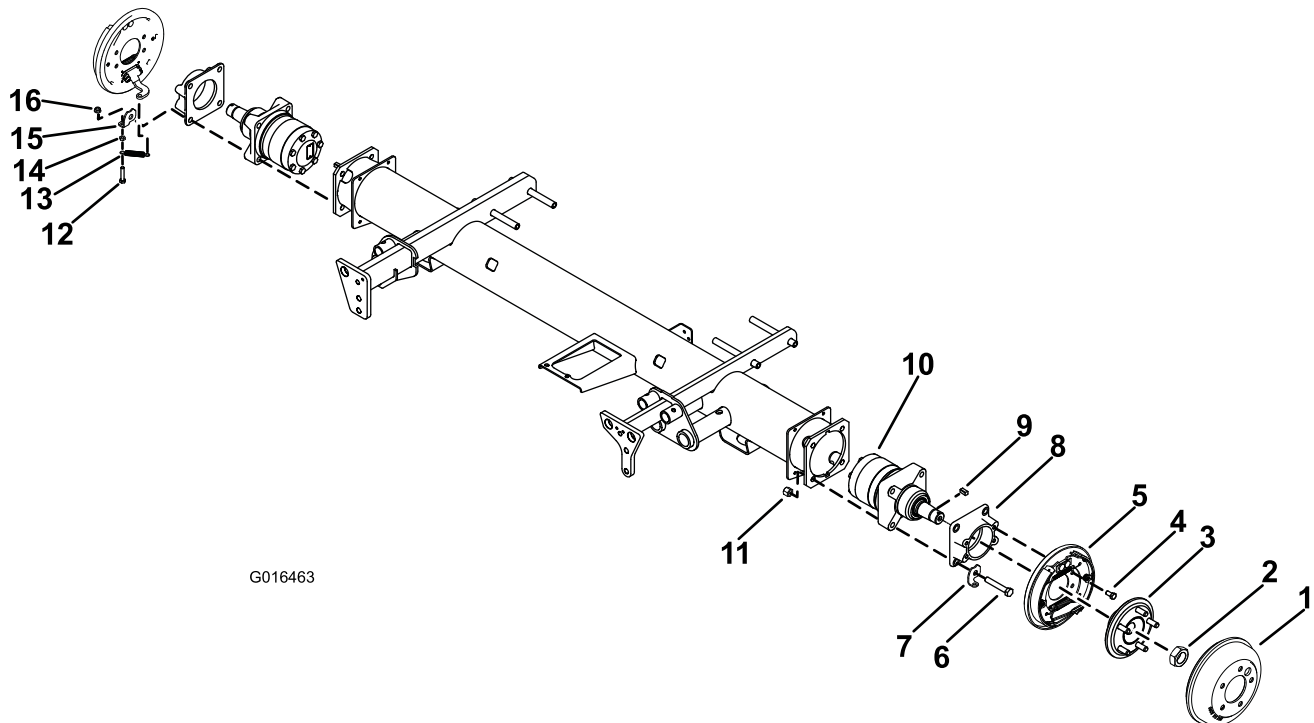

Figure 1
3. Loosen, but do not fully remove, the locknut that secures the wheel hub to the wheel motor (Figure 1). Loosen the locknut at least 2 turns.
5. Remove the locknut and the wheel hub from the motor shaft (Figure 1).
6. Remove the 4 screws securing the brake assembly to the brake adapter and remove the brake assembly (Figure 1).
12. Remove the 4 locknuts securing the brake adapter, the wheel motor, and the spring clip to the frame (Figure 1).